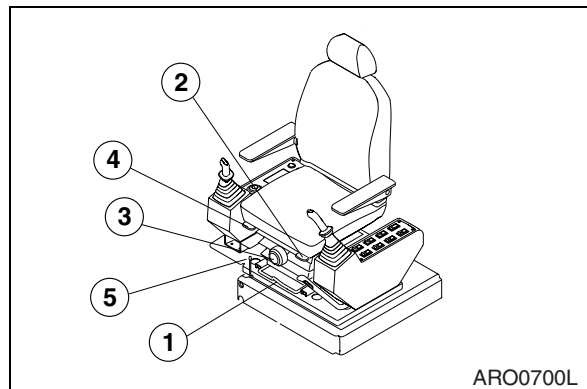

Figure 83
1. FORWARD / BACKWARD ADJUSTMENT (FIGURE 83)
Holding lever (1, Figure 83), raise it up, while pushing or pulling the seat to desired position. Release lever once desired position is reached. Adjustment range is 160 mm (6.3 in)
2. ADJUSTING THE SEAT'S TILT AND SEAT HEIGHT (FIGURE 83)
Push lever (2, Figure 83) down to adjust the angle of the front of the seat.
Pull lever (2, Figure 83) up to adjust the angle of the rear of the seat.
3. WEIGHT ADJUSTMENT (FIGURE 83)
Turning knob (3, Figure 83) to right makes the suspension harder. Turning knob to left makes the suspension softer. Adjust according to operator's weight by checking the weight indicator dial. Adjustment range is from 50 - 120 kg (110 - 265 lb).
4. ADJUSTING RECLINING (FIGURE 83)
Pulling up the right lever (4, Figure 83) allows the seat backrest to be moved forward or backward.
5. MOVING THE WHOLE SEAT SETTING FORWARD/BACKWARD (FIGURE 83)